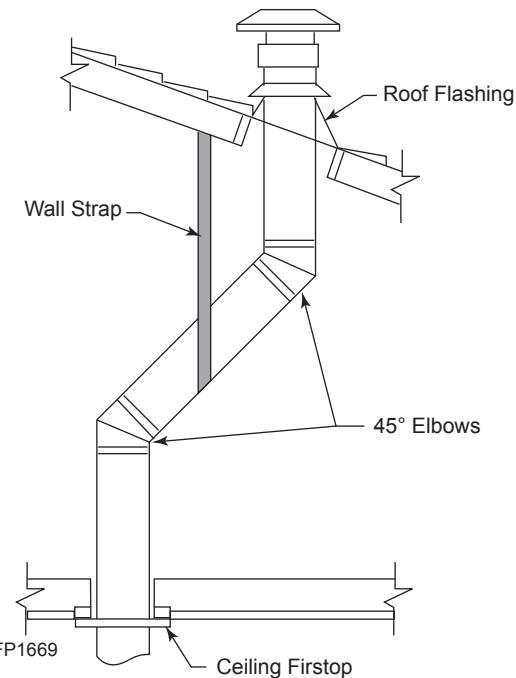

Figure 32 -
- Determine the route your vertical venting will take. If ceiling joist, roof rafters or other framing will obstruct the venting system, consider an offset. Refer to *Figure 32* to avoid cutting load bearing members.
NOTE: If an offset is needed to avoid obstructions, you must support the vent pipe every three (3) feet. Use wall straps for this purpose. *Page 23, Figure 32.* Whenever possible, use 45° elbows instead of 90° elbows. The 45° elbow offers less restriction to the flow of the flue gases and intake air.